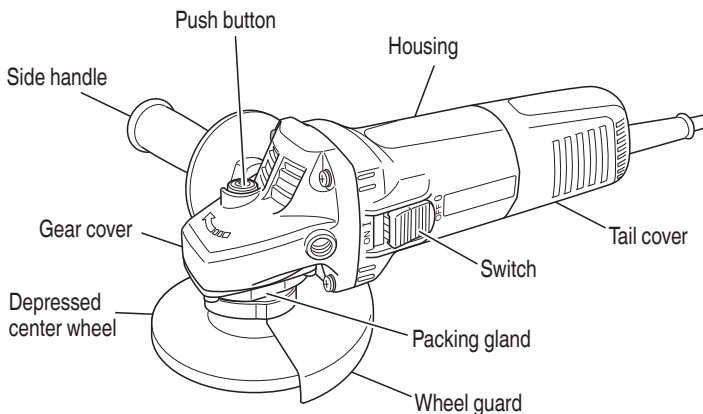

Fig. 1
- Hold the grinder firmly by its housing and side handle (Fig. 1).